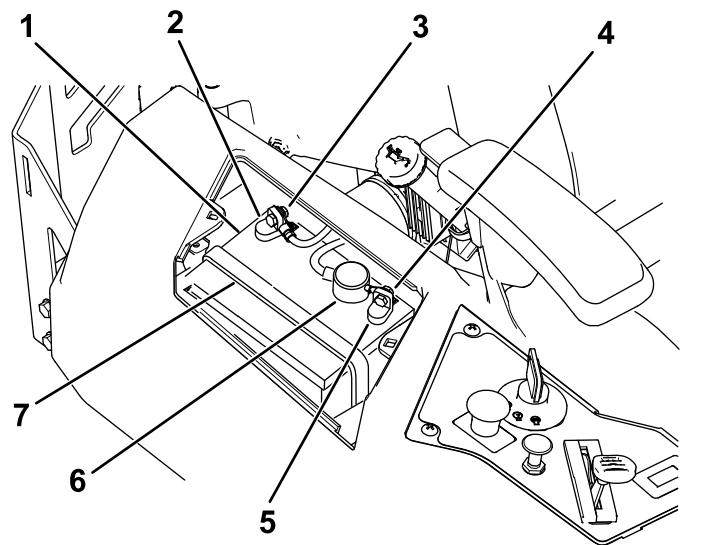

Figure 56
4. Disconnect the negative (black) ground cable from the battery post (Figure 56).
6. Disconnect the positive (red) cable from the battery post (Figure 56).
7. Remove the battery hold-down (Figure 56), and lift the battery from the battery tray.
1. Position the battery in the tray (Figure 56).
5. Secure the battery with the hold-down (Figure 56).